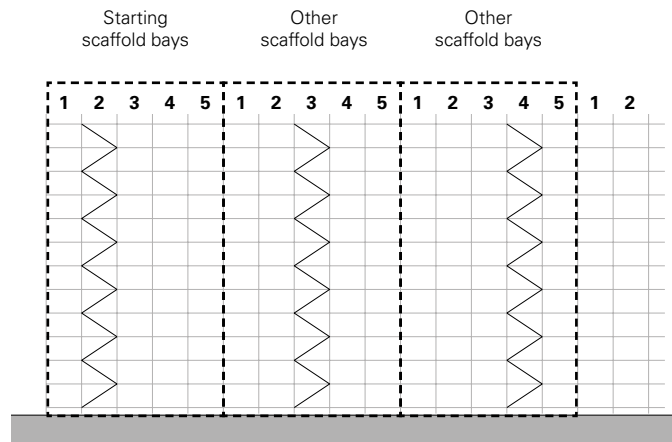

Fig. A5.01
- To brace the outer vertical plane, use vertical braces with a tower-like diagonal bracing arrangement. One brace may be used to brace a maximum of five bays. (Fig. A5.01)